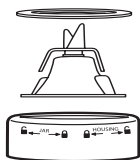

Figure 7
1. Carefully place the Blade Assembly into the Collar, under all grooves, making sure it sits at the bottom of the Collar. (See Figure 7.)